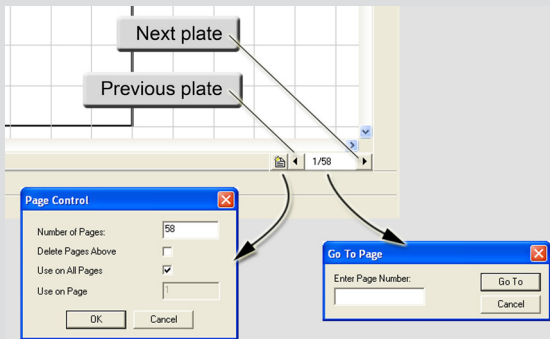

Fig. 46 - Use the **Paging Tool** to browse each badge.
- To view the remaining badges, use the **Paging Tool** that is at the bottom-right corner of the workspace. Click the **Forward** and **Back** navigation buttons to access the other badges (Fig. 46).